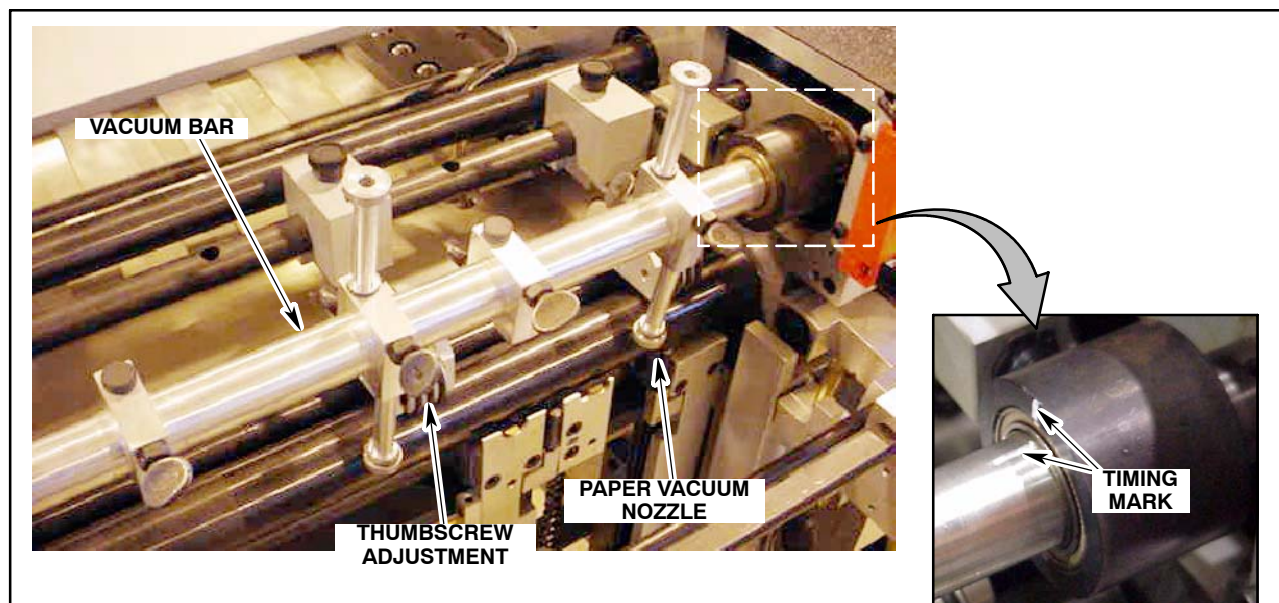

Fig. 4-16. Position the Paper Vacuum Nozzle
- Step: 2.** Nozzles on vacuum bar are correctly timed when positioned as shown in Fig. 4-16.
- Step: 5.** When nozzles have reached correct position, vacuum bar will be properly timed. (See Fig. 4-16.).